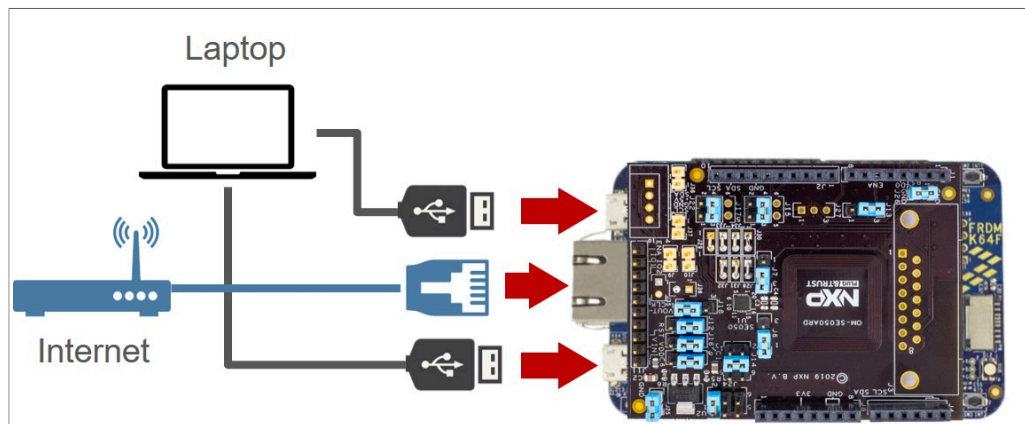

Figure 61. Connect FRDM-K64F board
- 1. Connect FRDM-K64F OpenSDA port, K64F port and Ethernet interface to your laptop as shown in Figure 61: